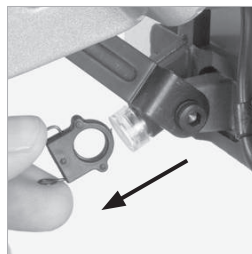

Fig. 38
- Remove the lower guard operating arm retaining clip. **(Fig. 38)** Release the guard operating arm from its pivot.